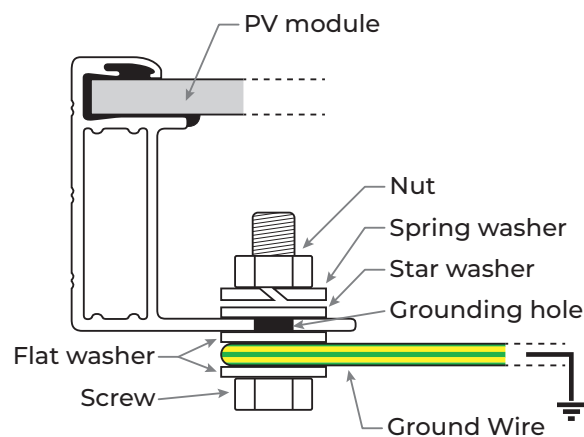

Figure 1
- Use M8 bolt and washers to bond the ground wire and aluminum frame through the grounding holes (as shown *Figure 1*). The tightening torque is 3-7N.m. All nuts and washers should be made of stainless steel.